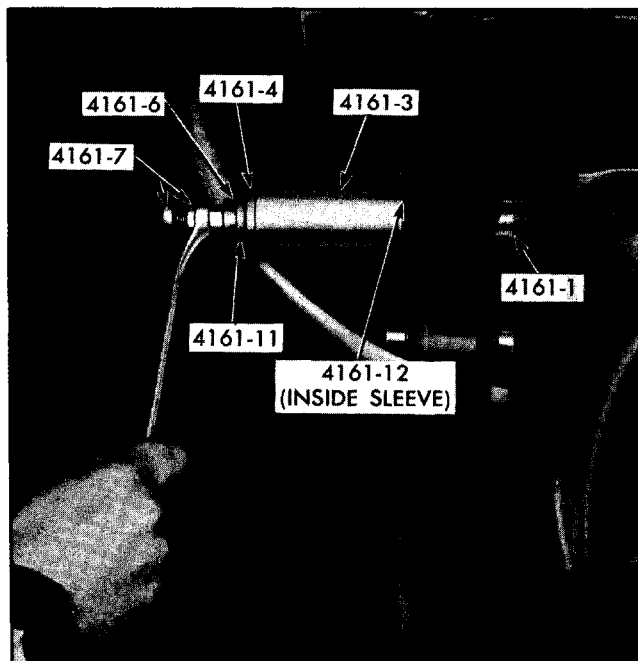

Fig. 4-57 Bushing Replacer Tool J-4161-A Positioned For Removal of Rear Bushing
c. With all parts of tool properly positioned, turn hex nut of 4161-7 (Fig. 4-57) until bushing is pulled out of frame into sleeve of tool.